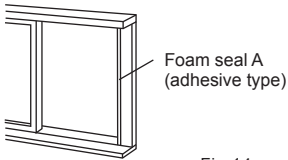

Fig.14
1. Cut the foam seal (adhesive type) to the proper length and attach it to the window frame, Fig.14.